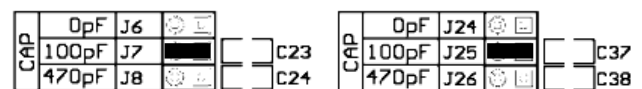

Figure 4: Left and right channel jumper banks default setting for capacitance load adjustments
There are three (3) different settings available for setting the capacitive load; 0pF, 100pF and 470pF which are represented by jumper sockets J6, J7 and J8 respectively for the left channel and jumper sockets J24, J25 and J26 for the right channel (refer to figure 4). The factory default setting is 100pF, therefore jumpers will be found in sockets J7 & J25.